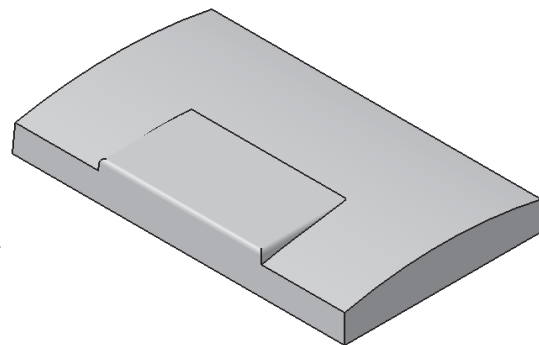

Figure 6-95 The model after filleting the first set of edges
3. Choose the **OK** button from the **Edge Fillet Definition** dialog box. The model, after filleting the first set of edges, is shown in Figure 6-95.